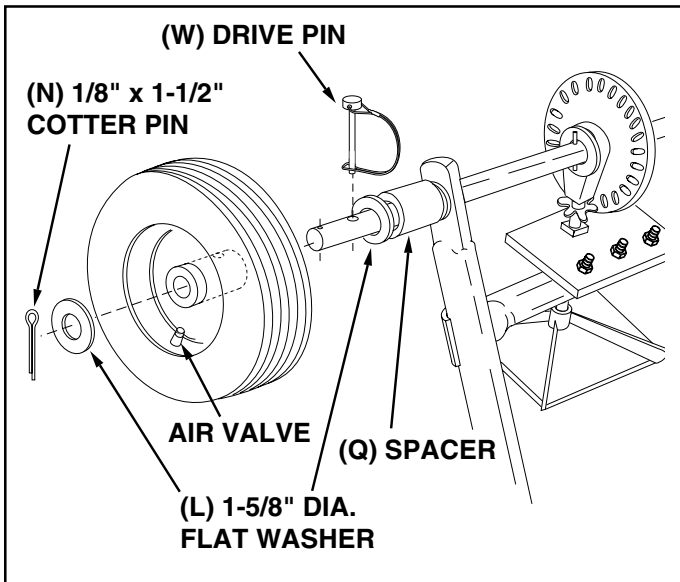

FIGURE 4
9. Assemble a spacer (Q), a 1-5/8" flat washer (L), a wheel (air valve facing out) and another 1-5/8" flat washer (L) onto the end of the axle that has both the **large and small holes**. See figure 4.
10. Install a 1/8" x 1-1/2" cotter pin (N) into the small hole in the end of the axle. See figure 4.
11. Open the bail on the drive pin (W) and install it through the wheel and the large hole in the axle. Close the bail to lock the pin in place. See figure 4.
(Refer to figure 4 on page 6.)